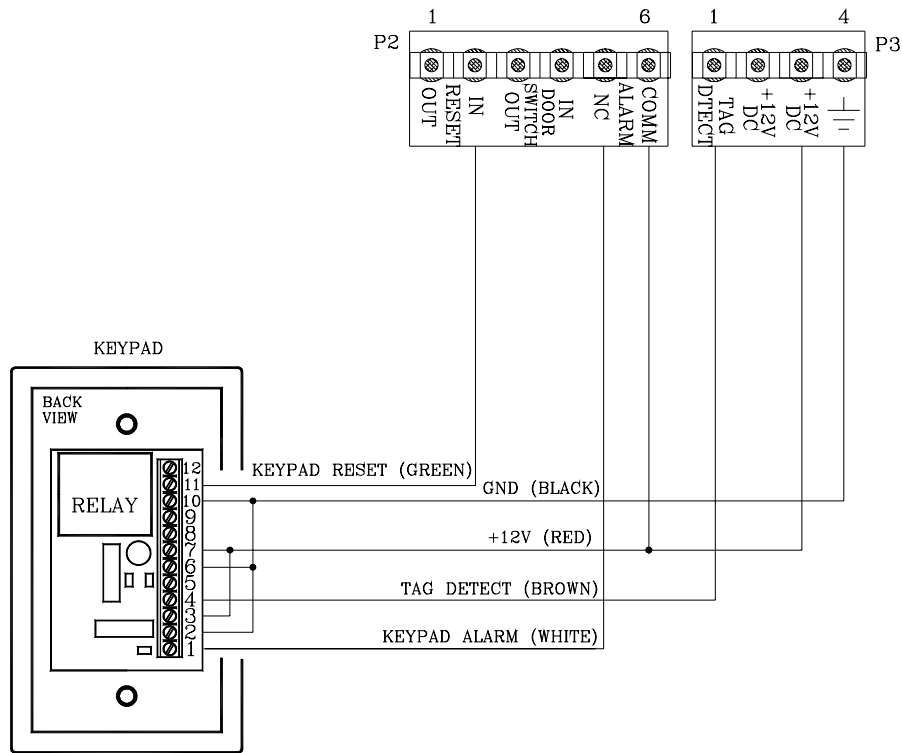

Figure 6.5 Wiring the Keypad to the LC unit with Tag Detect option
12. **OPTIONAL:** If you wish to use the Tag Detect feature of the Keypad, use a separate 22-gauge, 2-conductor plenum-rated cable to connect pin 4 of the Keypad to P3-1 (Tag Detect) of the LC unit (see Figure 6.5).